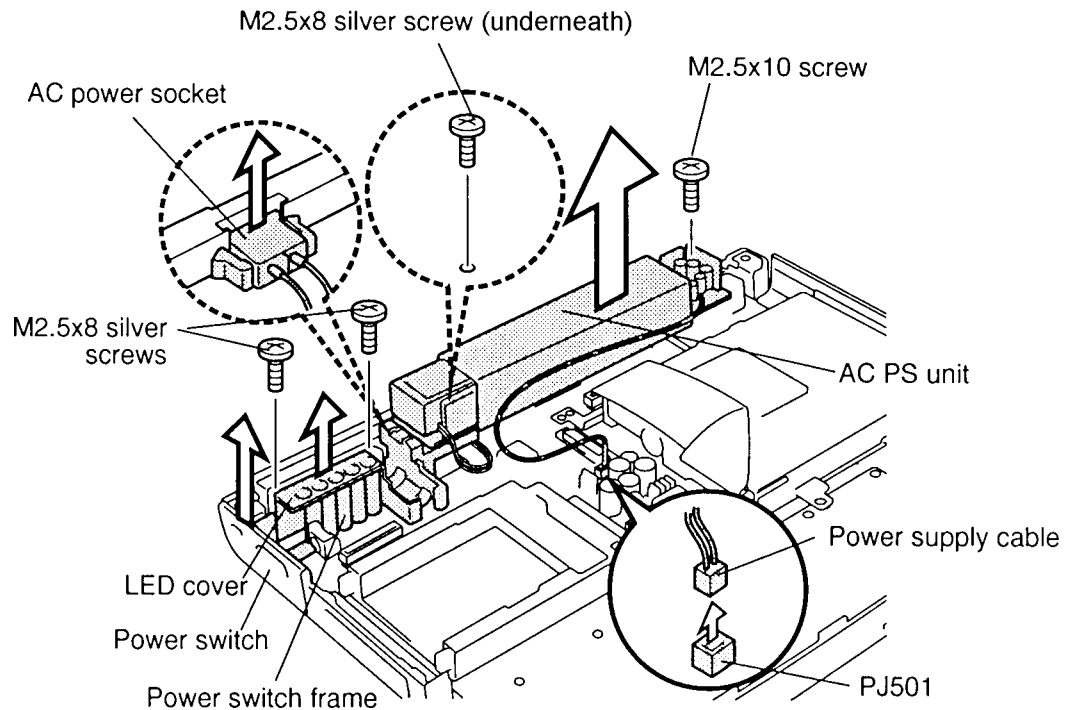

Figure 4-19 Removing the AC PS unit
To remove the T2110/T2130 series AC PS unit, follow the steps below and refer to figure 4-19.
3. Disconnect **one M2.5x10 screw** on the **AC PS unit** (figure 4-19).
4. Disconnect **three M2.5x8 silver screws** on the **LED cover** (figure 4-19).
5. Disconnect the **power supply cable** from **PJ501** and remove the **AC PS unit** with **AC power socket** from the system unit (figure 4-19).
To install the T2110/T2130 series AC PS unit, follow the steps below and refer to figure 4-19.
1. Seat the **LCD cover/power switch frame** on the system unit (figure 4-19).
2. Seat the **AC PS unit** with **AC power socket** on the system unit and connect the **power supply cable** to **PJ501** on the system board (figure 4-19).
3. Secure **three M2.5x8 silver screws** on the **LED cover/power switch frame** (figure 4-19).
4. Secure **one M2.5x10 screw** on the AC PS unit (figure 4-19).